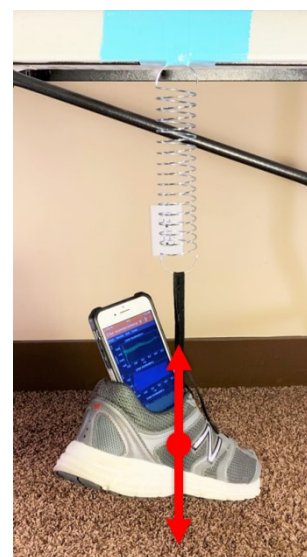

Fig. 9: Displace the weight and allow the spring to oscillate.
3. Start recording data in the app and place your phone into the carrier upright as shown in Fig. 9. If you do not orient your phone upright (y-axis vertical), then you may need to use a different acceleration graph when determining the period. It would be nice if you can position the phone in the carrier such that you can watch the graph while it collects data, but if that's not possible, don't worry about it.
4. Stretch the spring down a small amount (2-3 cm) and release it, allowing the spring to oscillate up and down (see Fig. 9). If it is also swaying side to side very much, stop and try again.